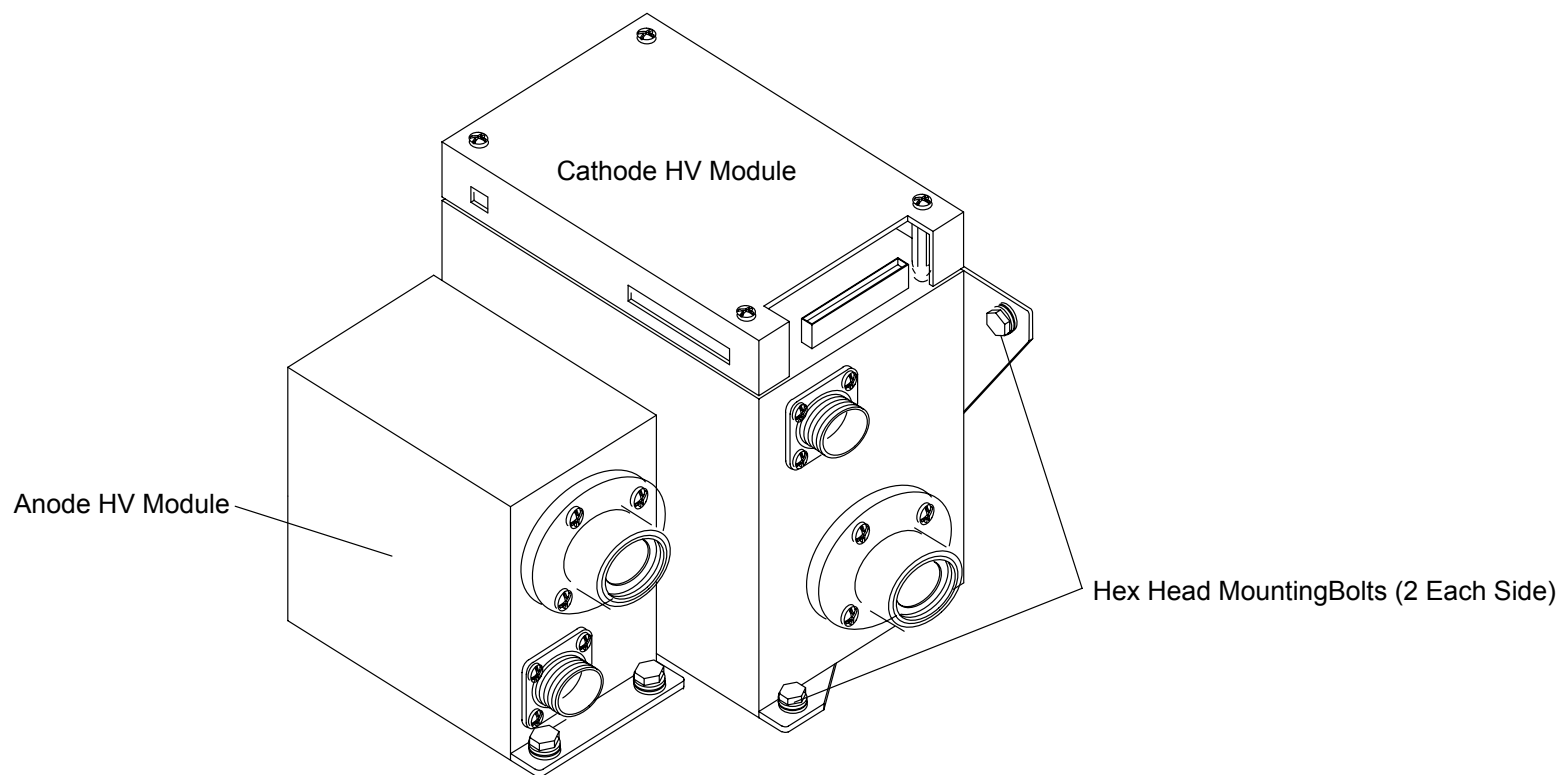

FIGURE 264 Anode and Cathode HV Modules
5. Tag and disconnect all Cables on the Cathode High Voltage Module. See Figure 264.
6. Remove the two Hex Head Bolts, Washers, and Lock washers that secure the Cathode High Voltage Module to the Gantry Scan Frame. Refer to Figure 264.
7. Remove the two Hex Head Bolts, Washers and Lockwashers that secure the Cathode High Voltage Module to the Tube Shelf and remove the module. Refer to Figure 264.